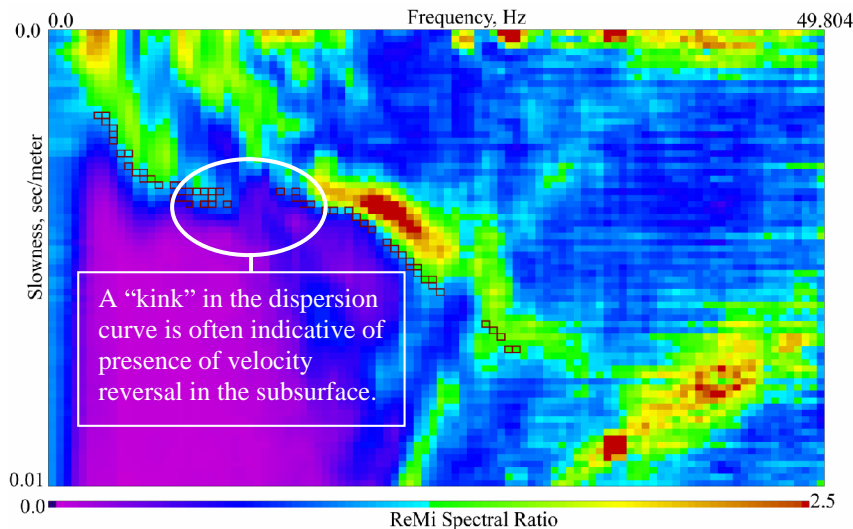

Figure 41a: Example p-f image showing a “kink” in the dispersion curve indicative of a velocity reversal.
9. On the other hand, if there is distinct ‘kink’ in the dispersion curve, and it is present in all the p-f images of the data set, then it probably implies the presence of a high or low velocity layer, depending on the shape of the ‘kink’ (see Figure 41a).